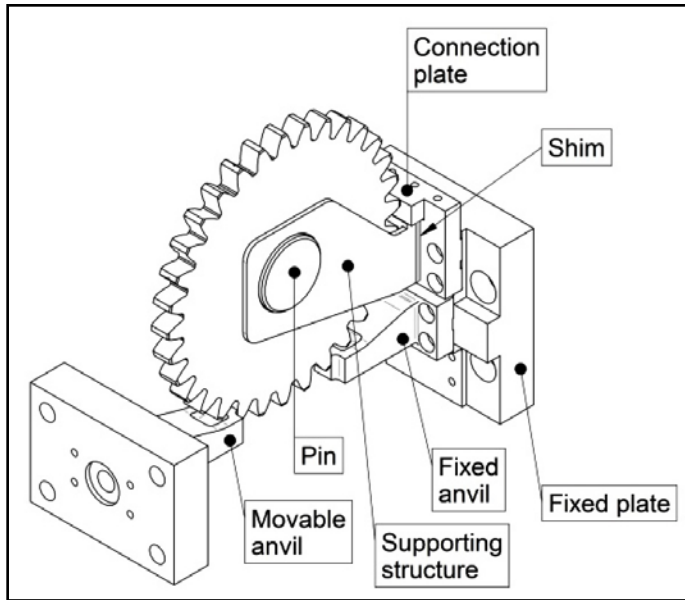
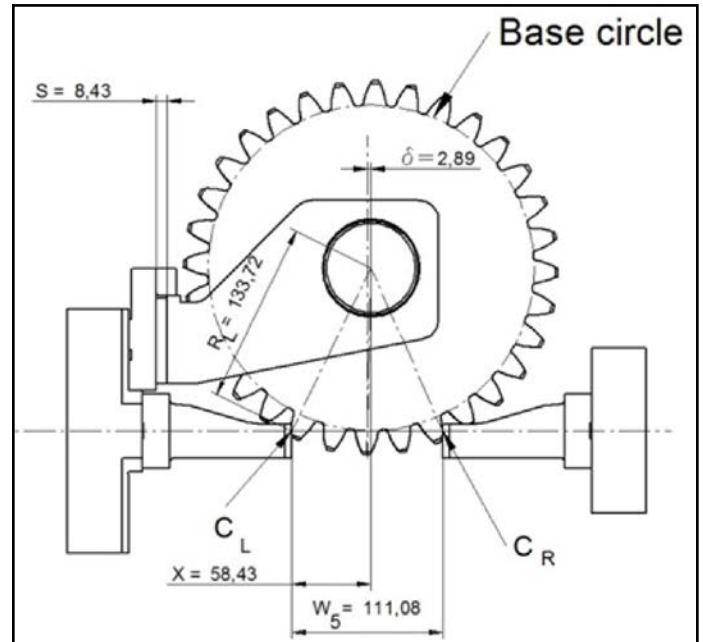

Figure 1 Bending fatigue test apparatus: 3-D schema and part nomenclature.
Figure 2 Bending fatigue test apparatus: main dimensions of rig and gear.
The test gears were positioned on the test rig by means of a pin inserted in the hole of the hub and in the supporting structure (Fig. 1). This pin was used only in the setting phase and was subsequently removed. While the vertical position of the axis of the supporting structure holes was fixed and set at a distance equal to the base radius r_b from the axis of the machine, the horizontal position of the gear was adjusted using shims. A symmetric loading condition is obtained (i.e., same root stress on the two teeth) if the pin axis is set at a distance (X) from the fixed anvil equal to half of the span measurement (W_5). In the performed tests, a non-symmetric condition has been used to maximize the obtainable root stress. This configuration was obtained by shifting the gear in a horizontal direction of $\delta_s = 2.89$, in regard to the symmetric loading condition. In this asymmetric condition, one loaded tooth is stressed more than the other one since the load is applied at a higher radial distance from the toothed wheel center that, according to the geometrical quantities shown (Fig. 2), can be calculated as follows: